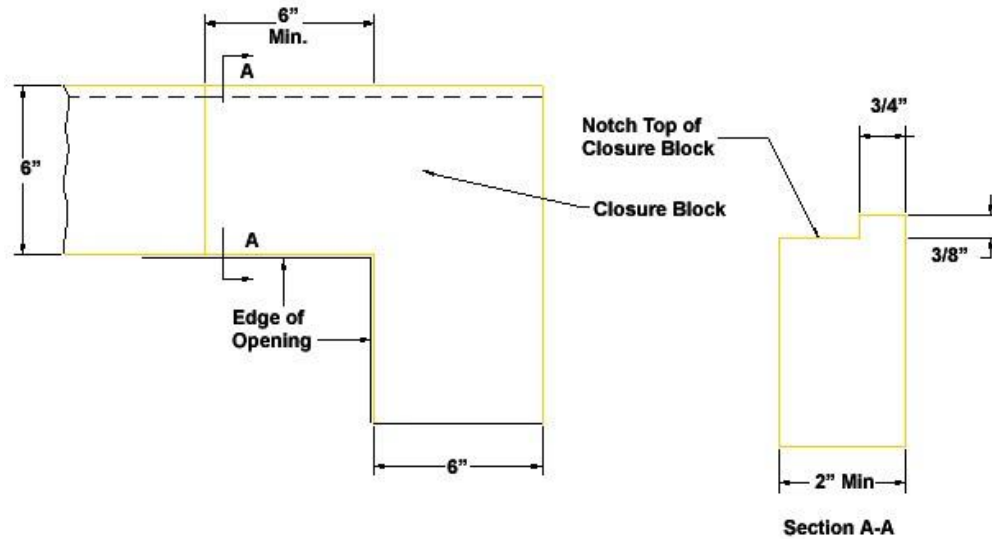

Fig. 24
8. Offset the joints of the Closure Blocks a minimum of 6 in (152 mm) from the corner of the opening by using an L-shaped closure block at each corner as shown in Figure 24.